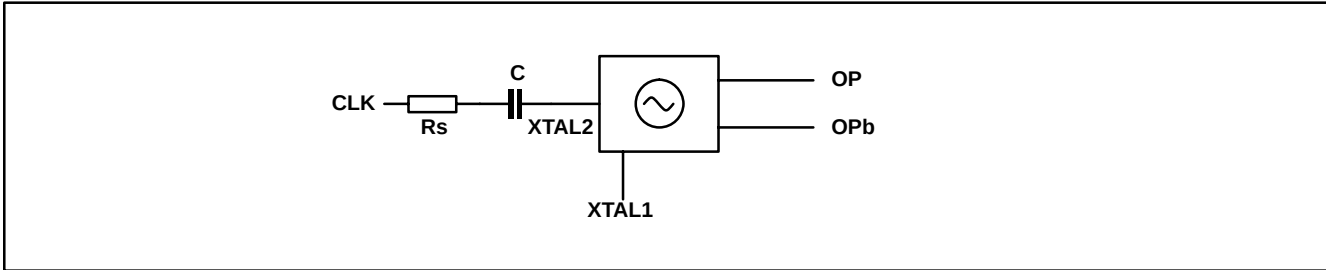

Figure 7 Direct drive of crystal oscillator
Alternatively, a reference clock can be provided by an external source connected to pin XTAL2 Figure 7.
1. Ability to directly drive the XTAL oscillator from the tester (no crystal). The XTAL2 pin allows direct drive of the oscillator with an external clock source as shown in Figure 7. Typically a 200mVpk clock signal is AC coupled to produce differential output on OP and OPb. (C=10nF, R s (Source) <5k Ω)